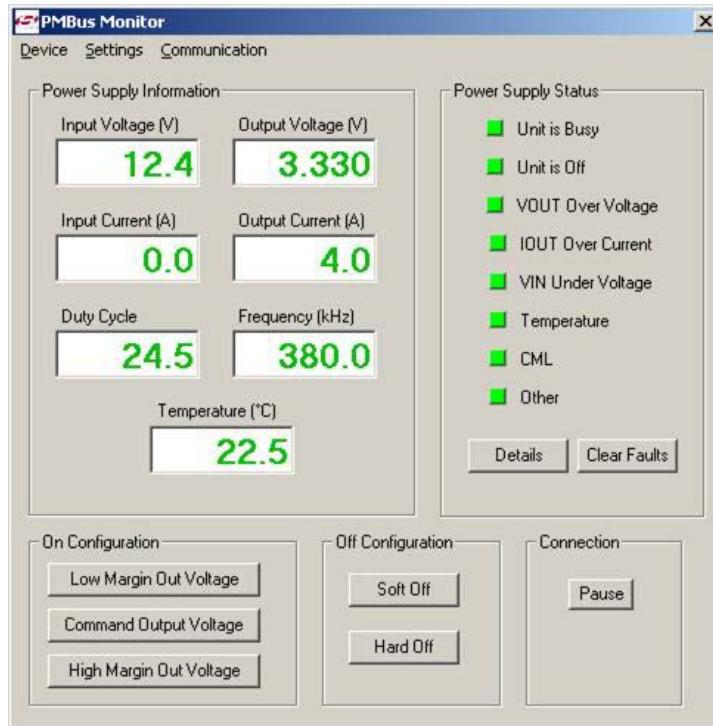

Figure 5. View of the PMBus Monitor
8. Run the PMBus Monitor application by selecting **Options**→**Launch PMBus Monitor Tool** from the Application Builder. The window shown in Figure 5 will appear. The PMBus Monitor can be used to control and configure the target board. The target can be enabled/disabled through the monitor. The PMBus Monitor allows parameters, such as fault thresholds, to be changed. It also reports operating conditions and problems.